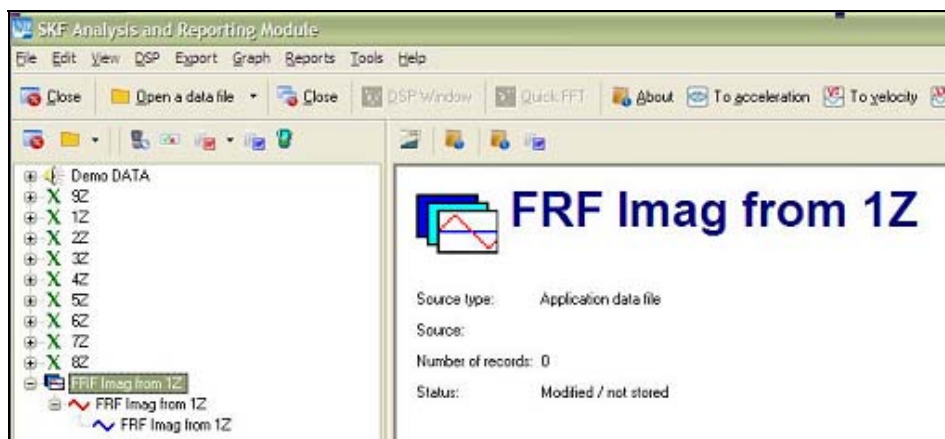

Figure 4. FRF Imag
4. Select trace **1“X”** and drag the **FRF Imag** spectrum onto a clear space of the data file window to create a new data file. [Figure 4]